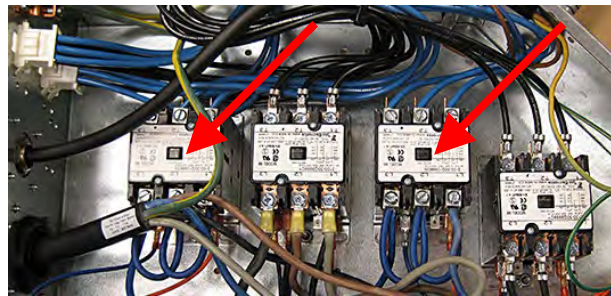

Figure 1
4. Locate the heat contactor(s) to replace (see Figure 1).